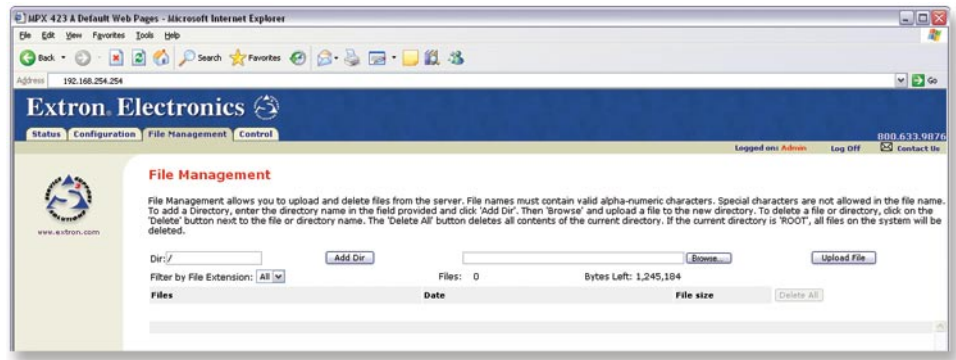

Figure 5-11 — Web server File Management screen
1. Select the **File Management** tab and the File Management screen (figure 5-11) is displayed.